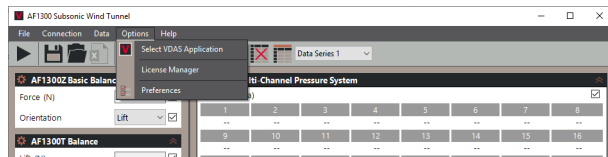

Figure 6 Open License Manager
2. Select Options, License Manager (Figure 6).